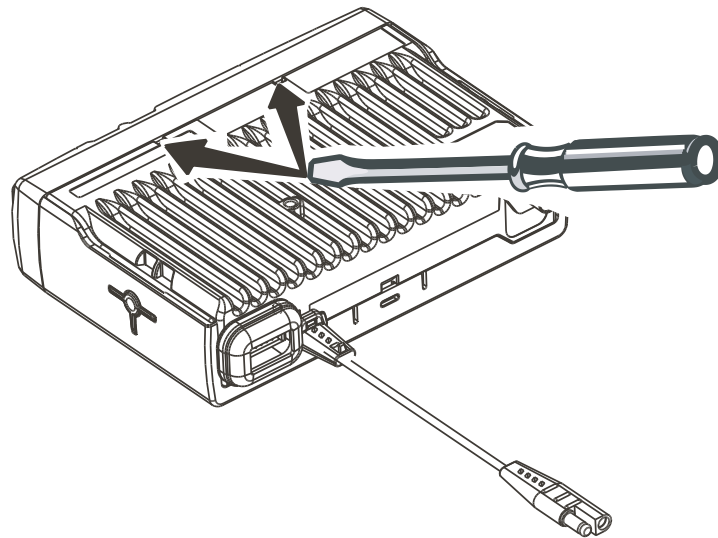

Figure 2-2 Control Head Removal
2. Insert the flat screw driver (4 mm maximum) into the slot and push the plastic up. Do the same with the second slot to free the control head from the chassis assembly. See Figure 2-2.